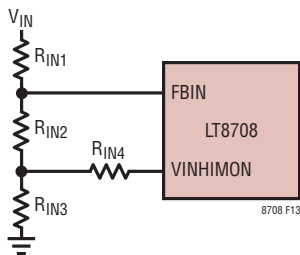
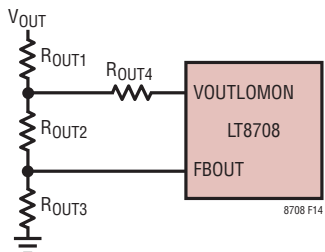

Figure 13. Single Divider for VINHIMON and FBIN
Figure 14. Single Divider for VOUTLOMON and FBOU
2. Connect a resistor divider between V_{IN} , $FBIN$, $VINHIMON$ and GND to configure the V_{IN} regulation and overvoltage thresholds (see Figure 13). Connect a resistor divider between V_{OUT} , $VOUTLOMON$, $FBOU$ and GND to configure the V_{OUT} regulation and under-voltage thresholds (see Figure 14).
R_{IN1-4} and R_{OUT1-4} are shown in Figure 13 and Figure 14.